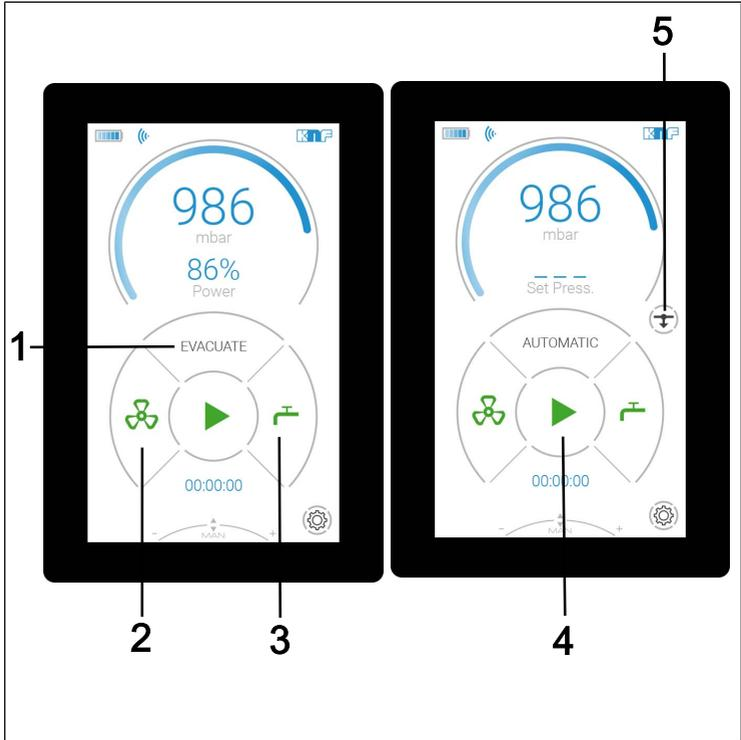

Fig. 15: Menus and buttons on the touchscreen
- Menus for selecting the mode (Fig. 15/1).
- Operating buttons (Fig. 15) with the functions:
- Starting and stopping a process (4);
- Opening and closing the venting valve (2);
- Opening and closing the coolant valve (accessory) of the condenser (3).
Press the *START*  (Fig. 15/4) button to start a process.
Press the *STOP*  (Fig. 15/4) button to stop a process.
Press the *OPEN*  button to open the venting valve (Fig. 15/2).
If the venting valve is permanently open (*CLOSE*  button appears in the display), it can be closed again by pressing the *CLOSE*  (Fig. 15/2) button.
Press the *OPEN*  button for (Fig. 15/3) to open the coolant valve on the condenser.
Press the *CLOSE*  button for (Fig. 15/3) to close the coolant valve on the condenser.